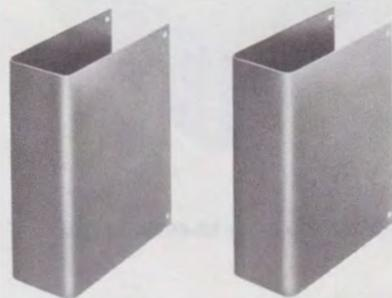

Fig. 34—Covers Per ED-95023-70
5.03 The covers per ED-95023-70† (Fig. 34) are used to conceal the exposed portion of ED-95023-01 metal stands where appearance is important. Eight RHM screws are furnished with the covers.